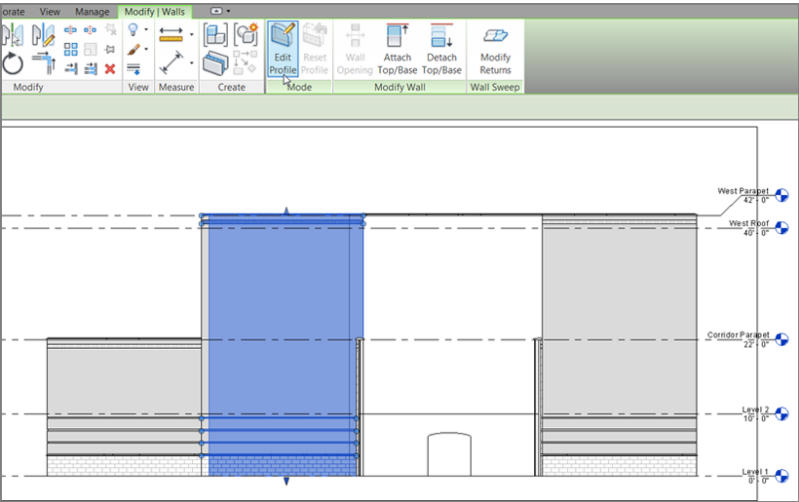

FIGURE 3.42: Selecting the wall to be modified and clicking Edit Profile
2. In this section, select the east wall of the west wing, as shown in Figure 3.42.